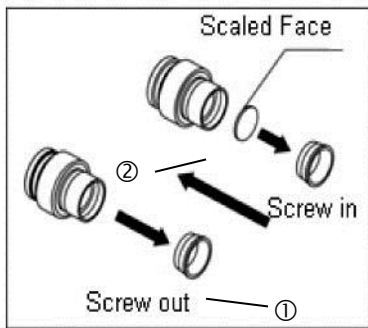

Fig. 6
Installing or Removing the Reticle (Fig. 6)
Unscrew the reticle retaining ring ① from the eyepiece (see Fig. 6).